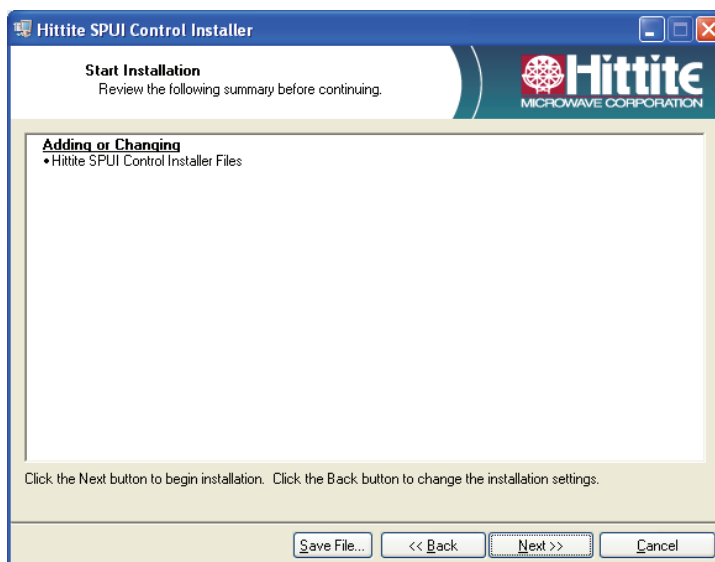

Figure 11. Software Installation Screen 1.
7. The screen in Figure 11 will appear. Click Next to begin installation.